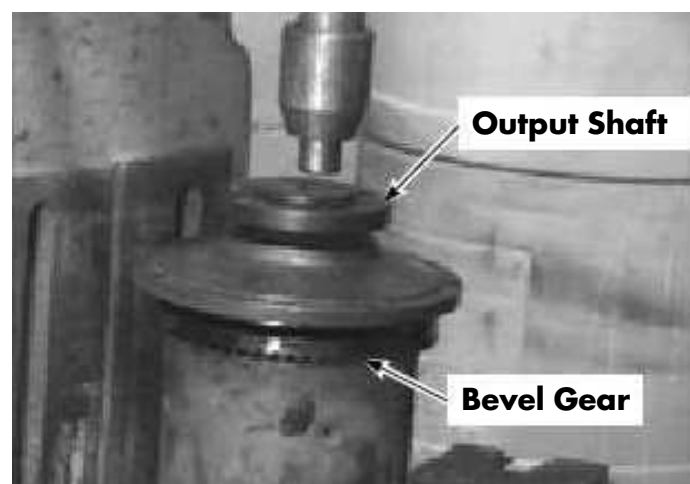

Figure 7-105. Press Down Output Shaft
- Place the main cover assembly, gear side down, on the tube under press. Press the output shaft down slightly to create a space between the bevel gear and the output bearing spacer. See Figure 7-105.